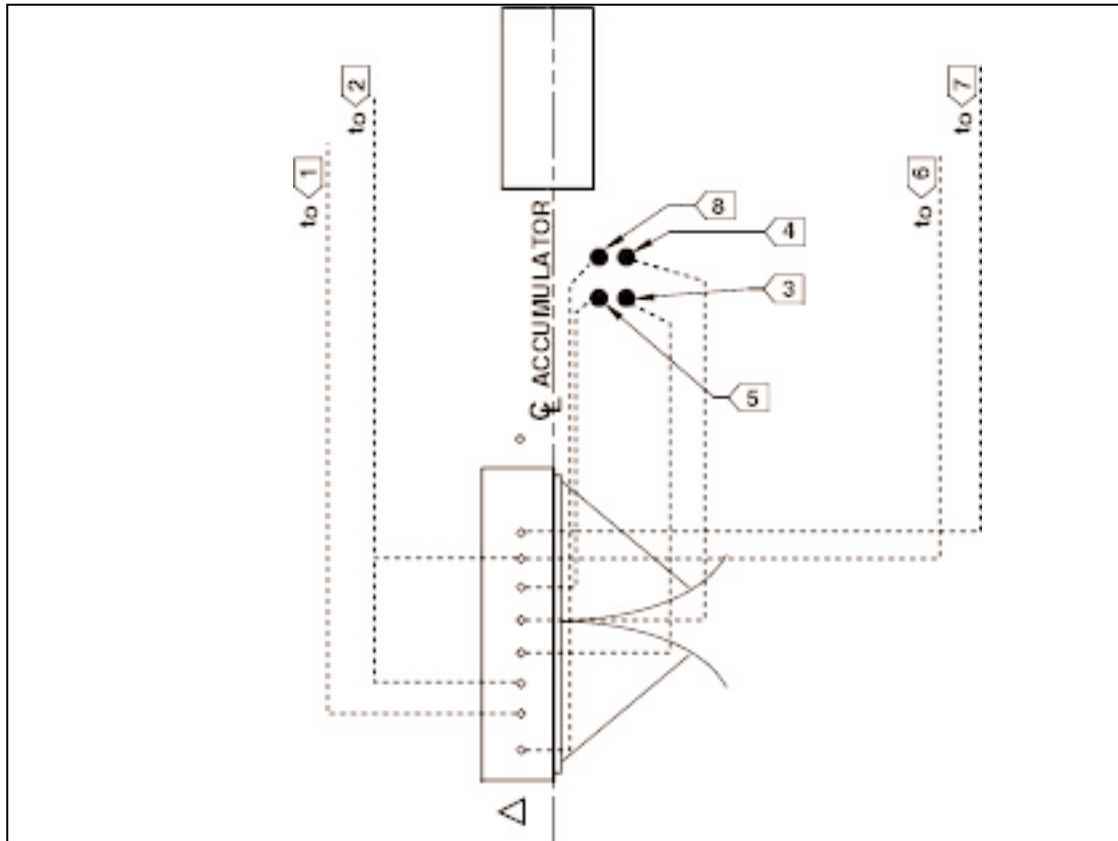

Figure 2.4 MS-10 BESSER-MATIC STANDARD ELECTRICAL PANEL LOCATION AND LOADER STUB-UPS (ref. installation sheet 2).
2. Numbers 1 through 8 below refer to numbers in figures 2.4 and 2.5 and installation drawing sheet 2.